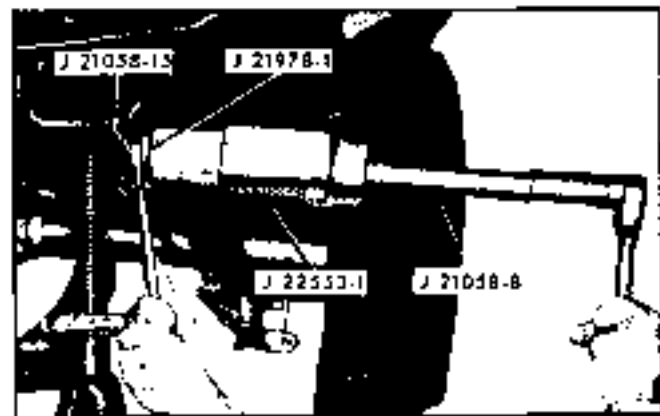

Fig. 4-2 Removing Spring Front Bushing - Firebird
b. Position remover adapter J 21978-1 over puller screw J 21058-15 so that adapter is against head of puller screw (Fig. 4-2).